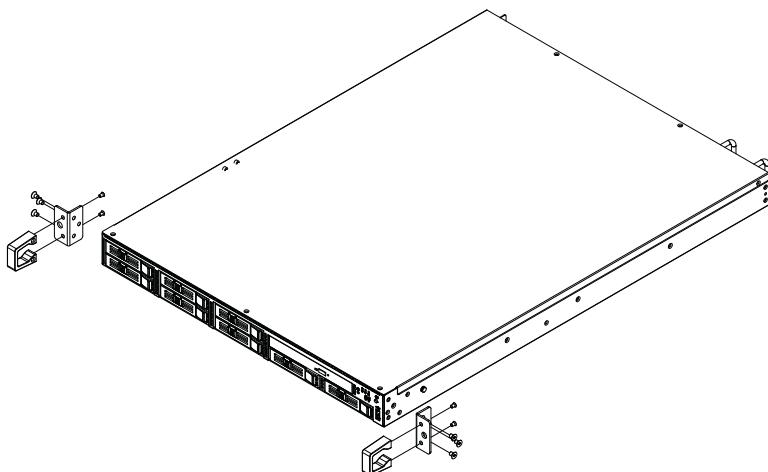

Figure 2.9 Attaching the Ears and Handles/ 安裝耳柄
2. Insert the slim ODD module in to the proper location in the bracket and secure them with the screws provided. See Figure 2.9.
3. Return the slim ODD module with brackets into the original position and fasten it with the screws. See Figure 2.9.
There is a pair of ears and handles in the accessory box. If you need to install them, please refer to Figure 2.9 to simply fasten them to the front-right and front-left mounting ears with the screws provided.
附件盒里有一对耳柄。请参考图 2.9 将耳柄安装在机箱前面板的左右两端，并用提供的螺丝进行固定。